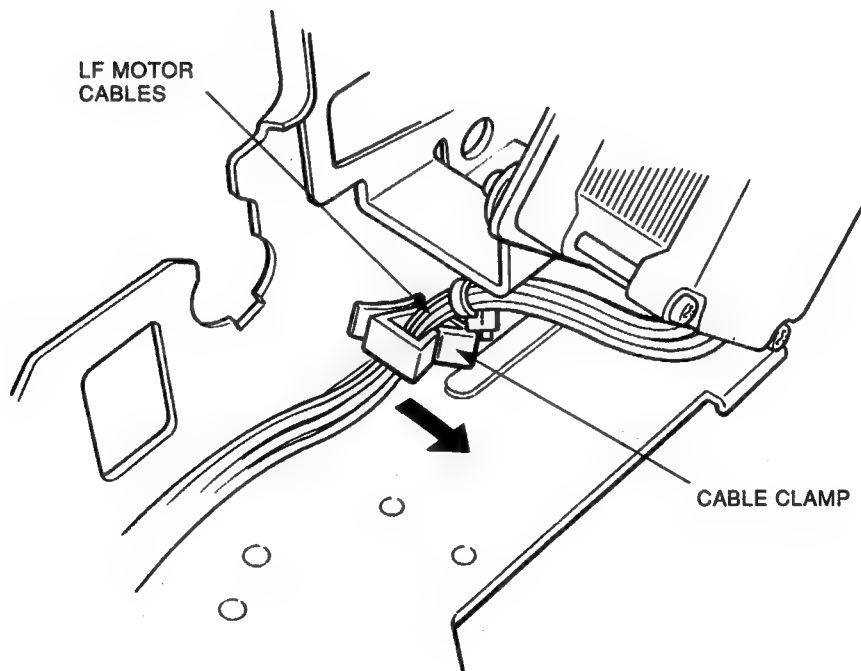

Figure 3-53 Cable Clamp
3. Remove LF motor cables from cable clamp (see Figure 3-53).